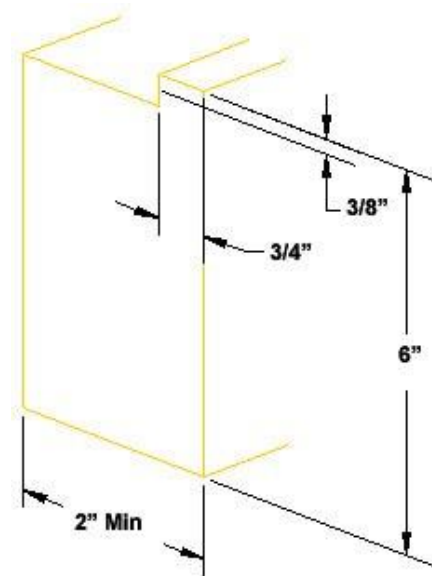

Fig. 14
- e. Notch the top of the Closure Block to accept the Dryvit Track, as shown in Figure 14. NOTE: Dryvit Starter Strips can be used above windows, doors, etc. This will minimize the required field notching to only L-shaped closure blocks at the corners.